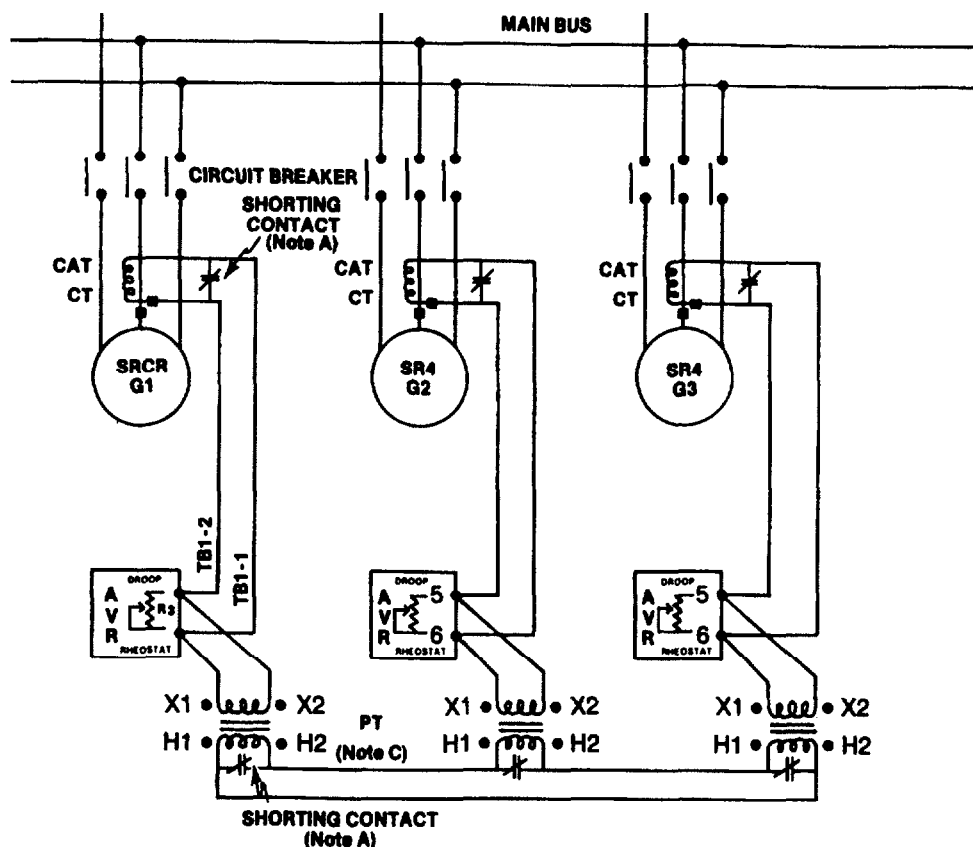

Figure 3
**Important:** Treat VR3 self-excited or permanent magnet similar to the singlephase, half-wave excitation (A1/A2-type AVR). See Figure 3.
Each generator's current is measured with a current transformer (CT) in one line, usually T2. When paralleling, all CTs must be in the same line of each generator. Also, all CTs must be correctly polarized such that all the secondaries connections are series additive. See Figure 3.
**Table 2:** Transformer selection for Figure 3 only (see Note C for Figure 3).